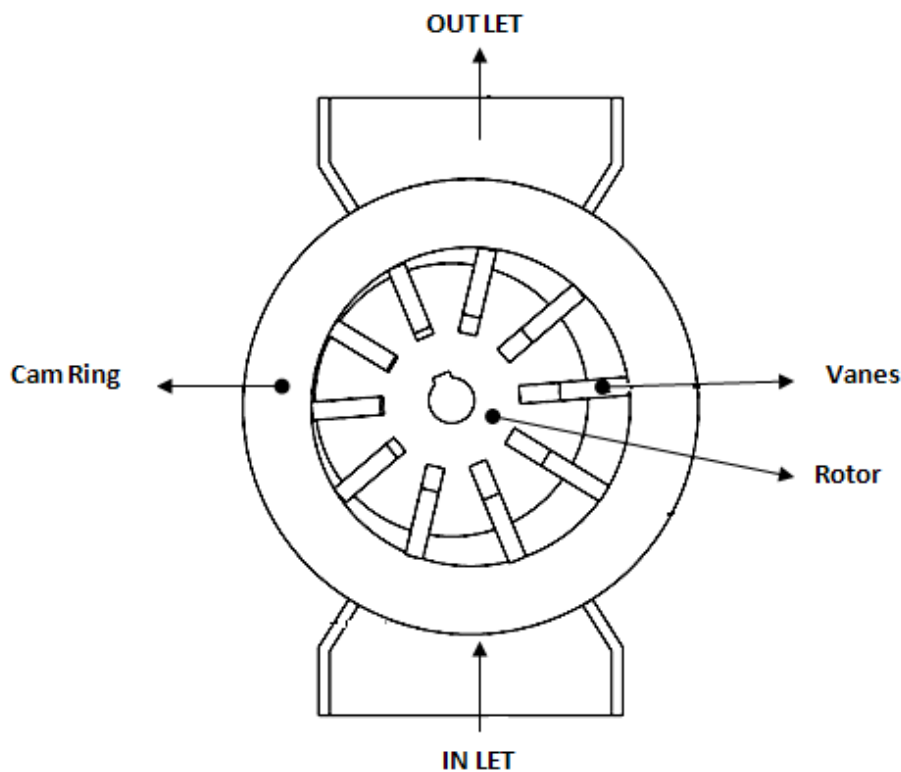

Fig.3.5 - Unbalanced vane pump
- ▶ In practice, the vane pumps have more than one vane as shown in figure 3.5. The rotor is offset within the housing, and the vanes are constrained by a cam ring as they cross inlet and outlet ports.